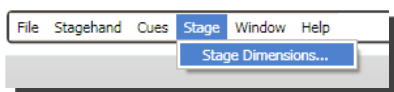

Figure 182
1. From the **Stage** menu, click **Stage Dimensions** (Figure 182).